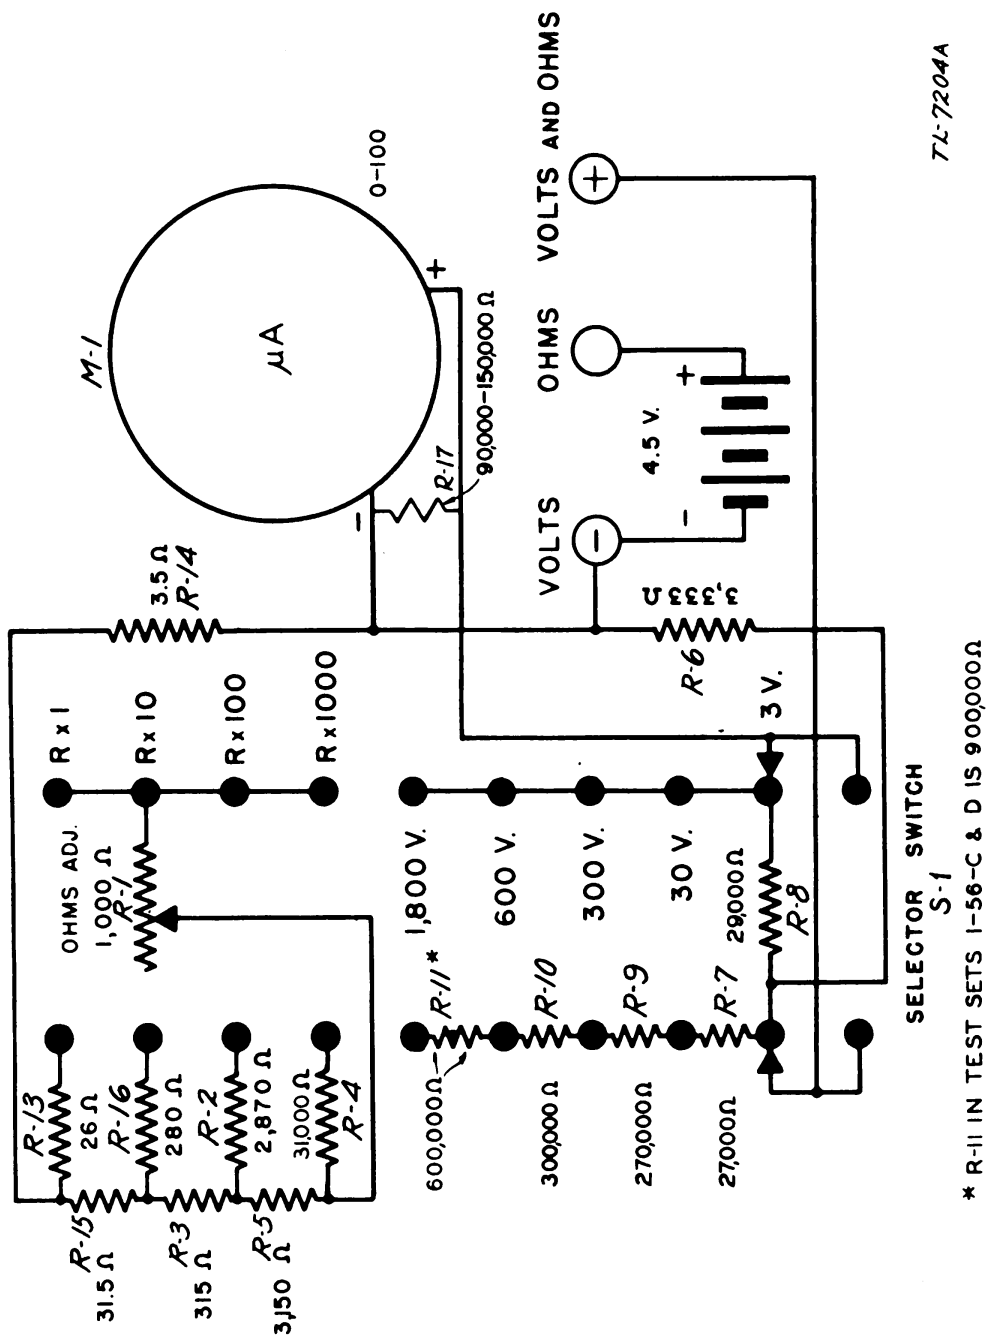

FIG. 29. MODEL 102 AND MODEL 666-SC VOLT OHM TESTER, SCHEMATIC DIAGRAM
b. Model 1183-SC(J) has three additional positions on Control B for capacitance measurements which eliminate three capacitance jacks (J-7).
38. MODEL 102 VOLT-OHM TESTER. Selector switch (S-1) places the correct shunt and multiplier resistors for the resistance or voltage range being used (fig. 29). The OHMS ADJ. control (R-1) adjusts the current flowing through meter (M-1) so the pointer can be "zeroed" at the full scale reading on the OHMS scale. Battery BA-31 (4.5-volt) furnishes current for the resistance measurements.